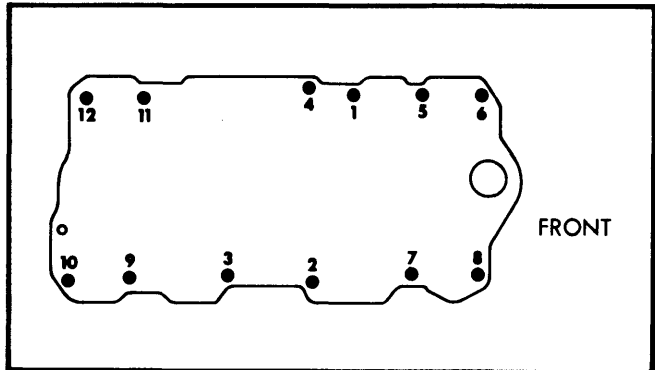

Fig. 6 305" Intake Manifold Tightening Sequence
**305"** — Tighten intake manifold attaching bolts, in sequence shown in Fig. 6. Specified torque is 35 ft. lbs.